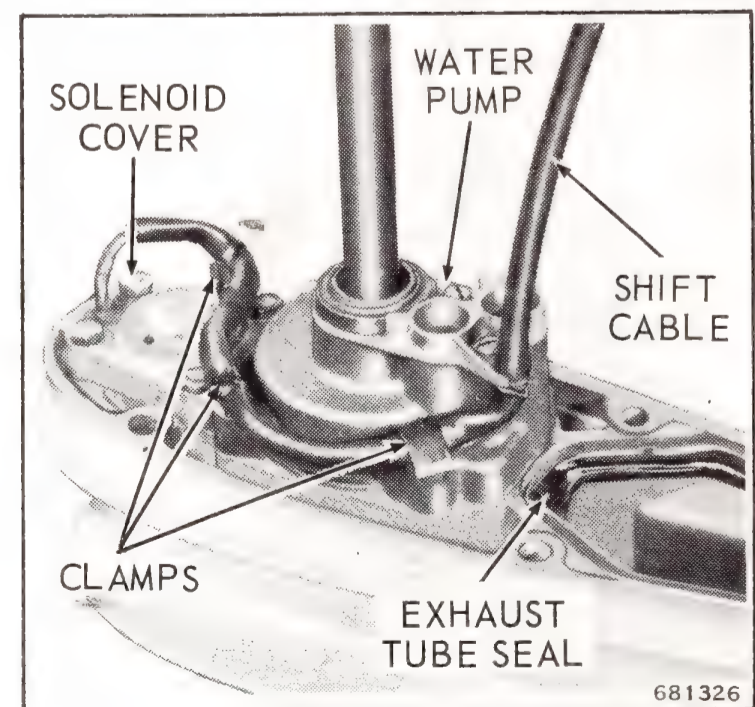

Figure 6-16. Shift Cable Clamps and Routing
a. Drain gearcase. Remove propeller nut, washers and propeller. Remove shift cable from clamps around pump housing. See Figure 6-16.
- x. Install pump housing using seal protective sleeve. Oil impeller blades and rotate driveshaft clockwise while sliding housing over impeller. Secure pump housing with screws dipped in Perfect Seal #4 and tighten to torque specified in Section 2. Route shift cable around water pump and secure in clamps. See Figure 6-16.